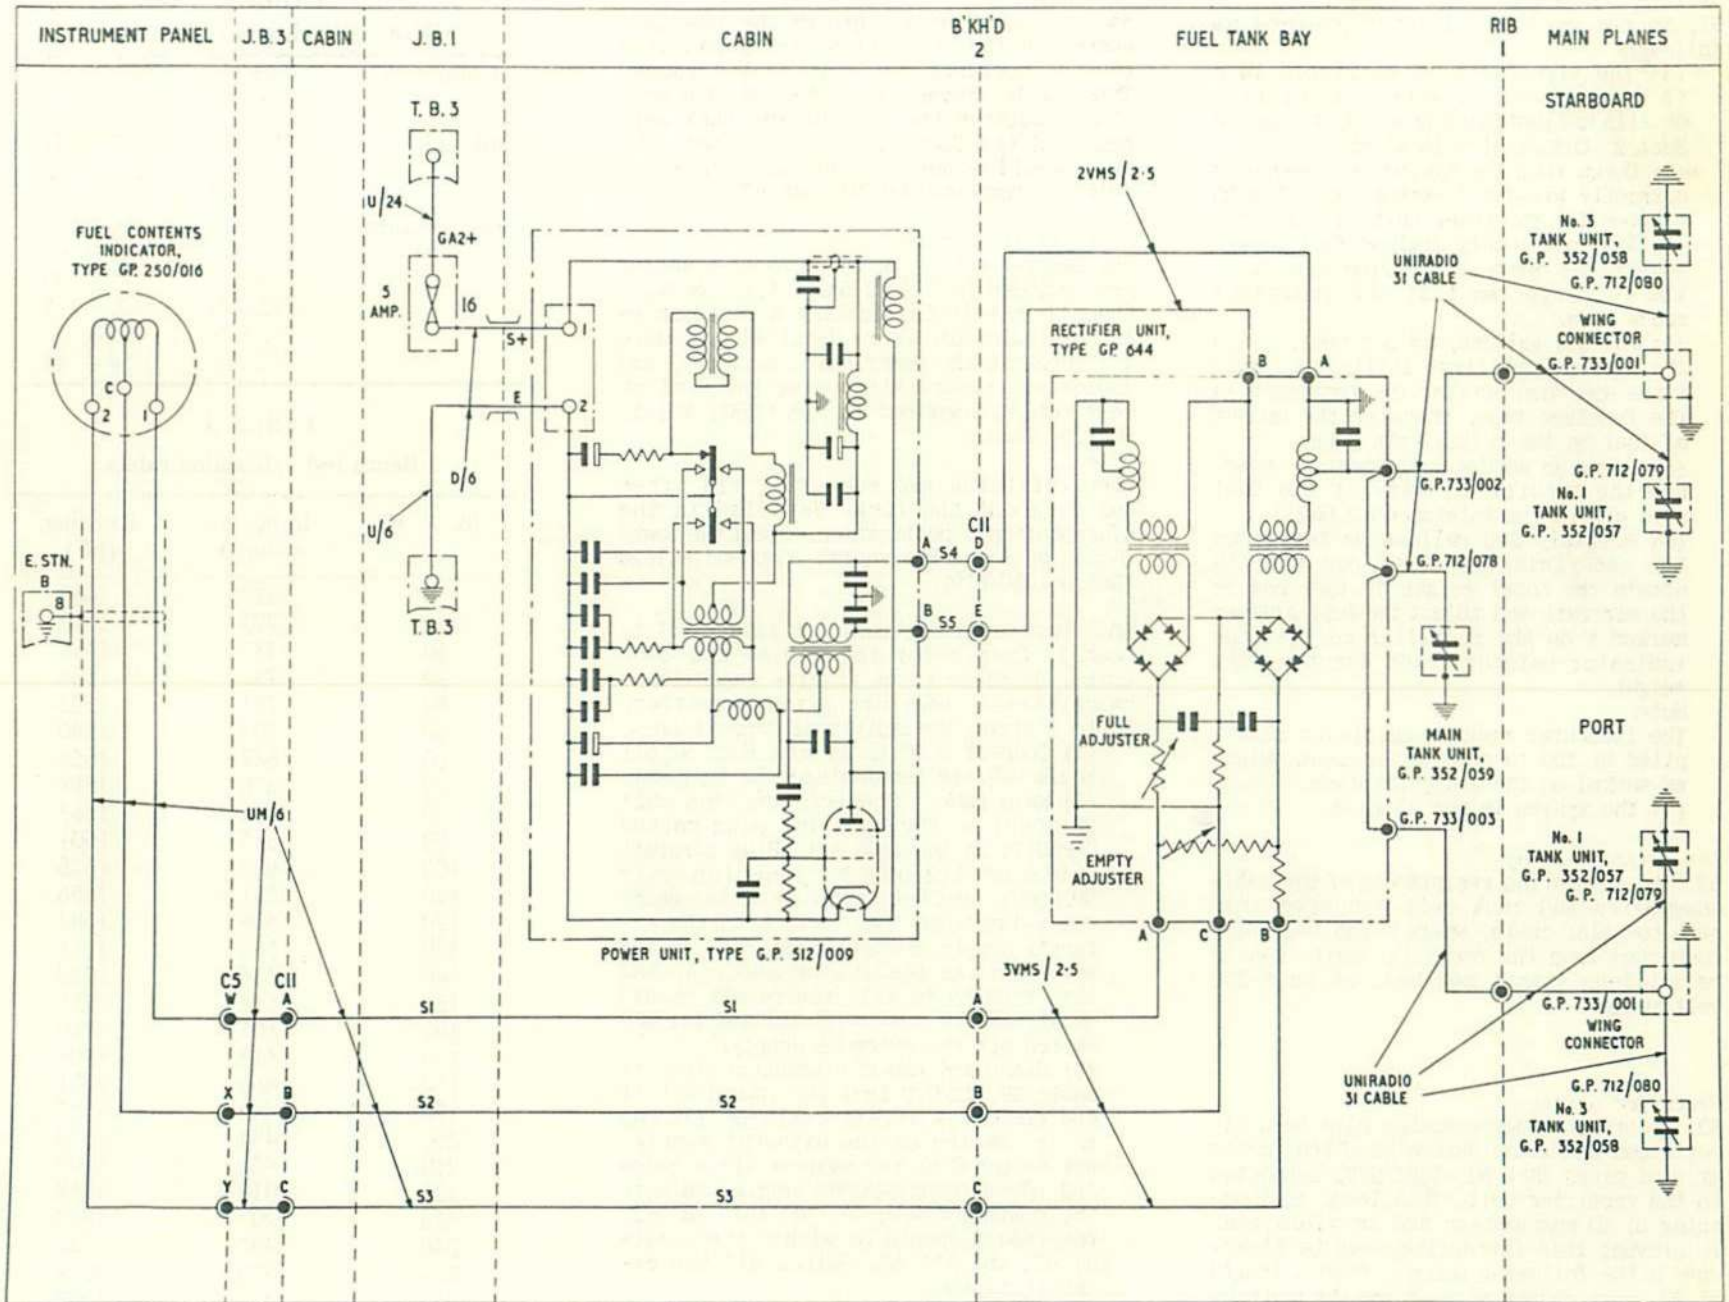

Fig. 3. Fuel contents system - S
58. If any of the three tests have proved faulty, reference should be made to Fig. 3 and each cable tested separately, being disconnected at each end for this purpose. The cable capacitances are shown in Table 2.